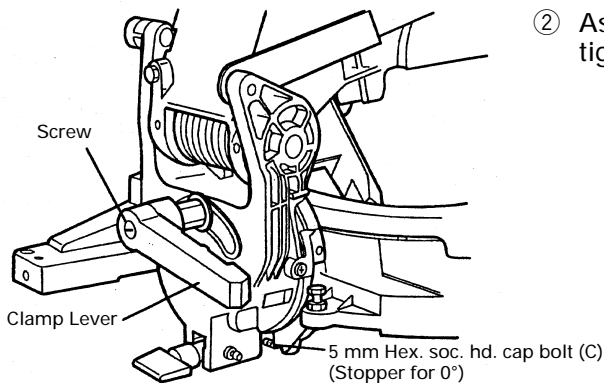

Fig. 7
- ② Assemble the clamp lever to the handle collar, then tighten the screw as shown in Fig. 7.
Before the power tool is shipped from the factory, it is adjusted for 0°, right angle, left 45° bevel cutting angle and right 45° bevel cutting angle with the 6 mm bolt (A), 6 mm bolt (B) and the 5 mm hex. soc. hd. cap bolt (C) (see Fig. 7).
When changing the adjustment, change the height of the 6 mm bolt (A), 6 mm bolt (B) or the 5 mm hex. soc. hd. cap bolt (C) (see Fig. 7) by turning them.